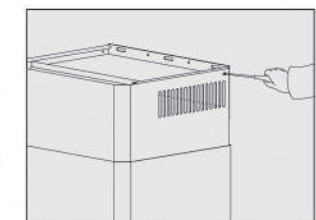

Fig.17
- (1) Put the trim cover in the fan shield;
- (2) Take up the fan shield and the trim cover simultaneously. First hang the trim cover on the components of the wind guide box, and then push the trim cover and the fan shield to the bottom along the components of the wind guide box;
- (3) After pushing the trim cover and the fan shield to the bottom, the fan shield will slide down slowly to snap the buckle of the fan shield into the fan frame and then insert the fan shield into the gap between the carrier plate and the fan frame;
- (4) On both sides of the decorative cover use self-tapping screws ST3.9\*9.5 to fix the decorative cover on the wind guide box (see Figure 17).